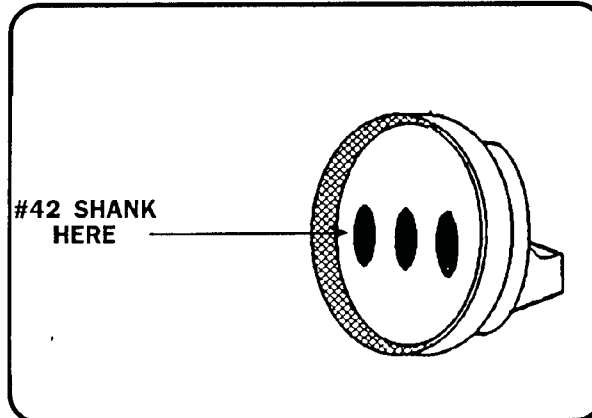

Figure 6
3. To check both 3 way connector for PRNDL and safety neutral switch, use a #42 drill bit or a .0935 guage. See figure 6.